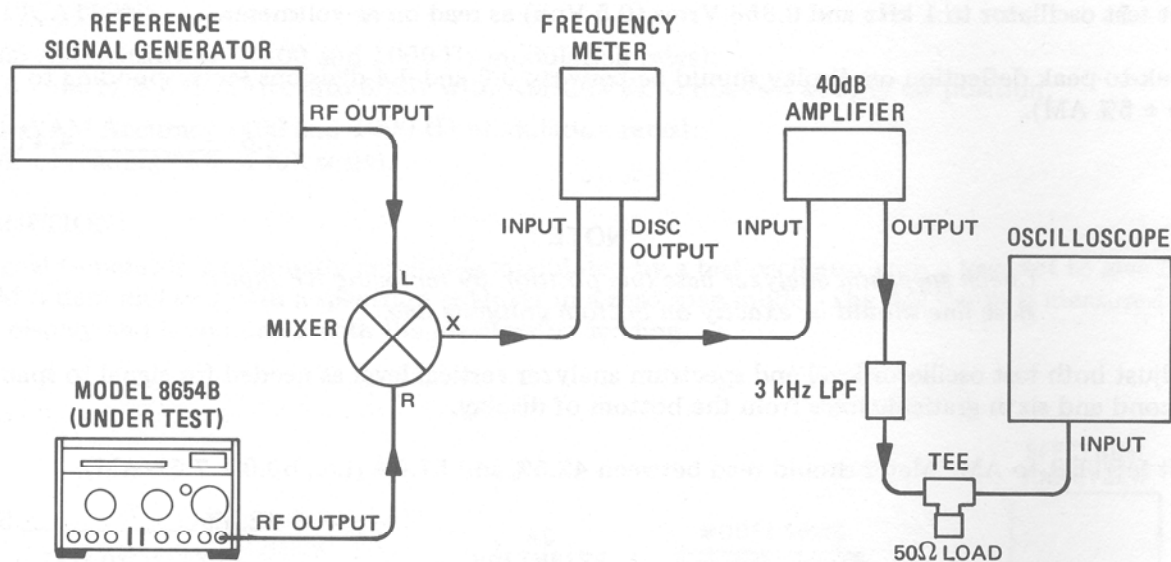

Figure 4-9. Peak Incidental Frequency Deviation Test Setup
1. Connect equipment as shown in Figure 4-9 after setting Signal Generator controls as follows: